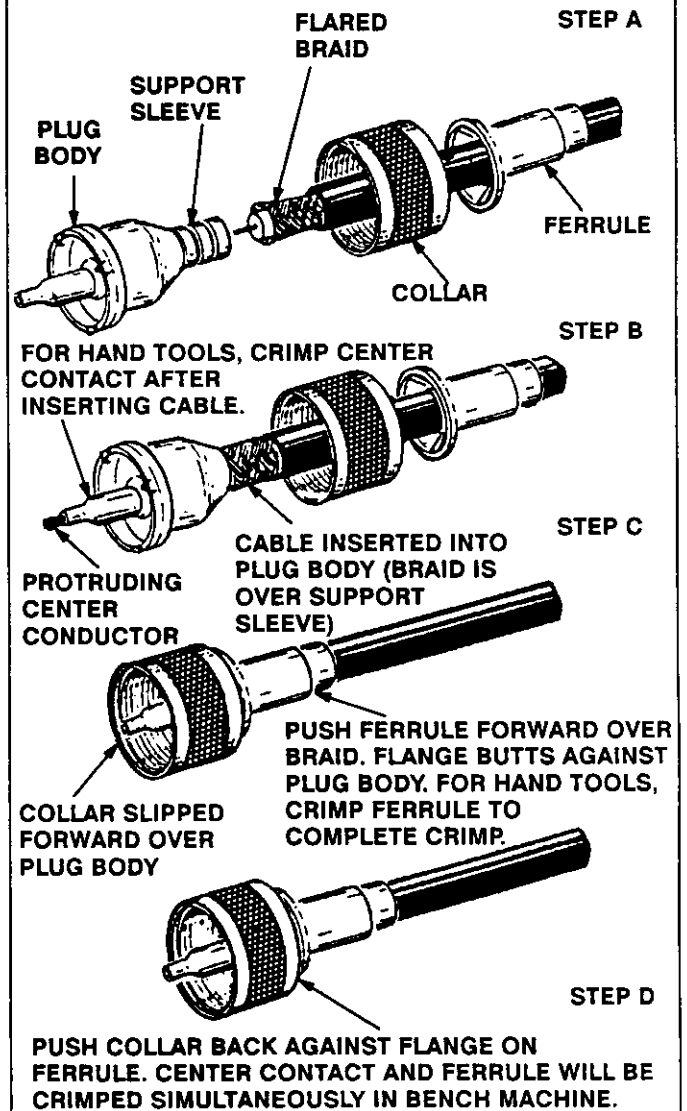

Fig. 3
1. Slip the ferrule over the cable, followed by the collar. See Figure 3, Step A.
3. Flare the braid and insert the stripped cable into the plug body until the cable dielectric butts against the dielectric inside the body. The braid fits over the support sleeve. See Fig. 3, Step B.
4. When using hand tools, the center contact is crimped and the ferrule is assembled over the braid. See Fig. 3, Step C.